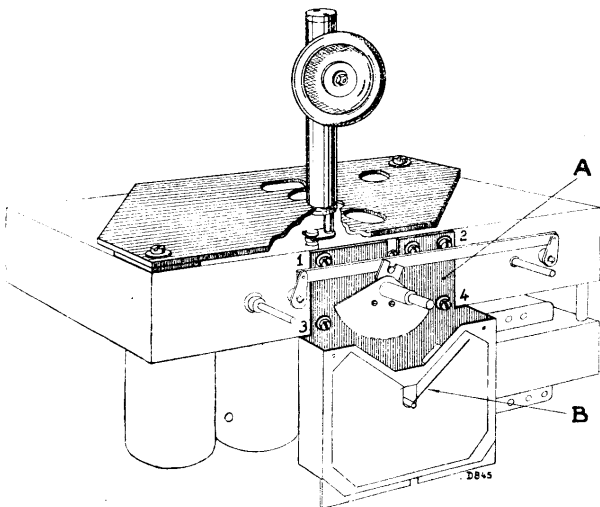

Fig. 2.
3. An adjusting plate with adjusting balancing tool (fig. 2).
2. Place the driving plate (fig. 2, A) in the central position.
5. Turn the pointer on its spindle to the position at which the pointer is parallel to the bevelled edge of the driving plate (fig. 2, B).